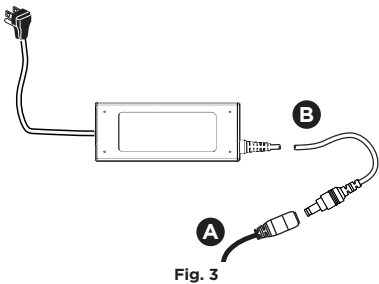

Fig. 3
6. Plug in the connector of the two heaters (A) into the power supply (B) (Fig. 3).